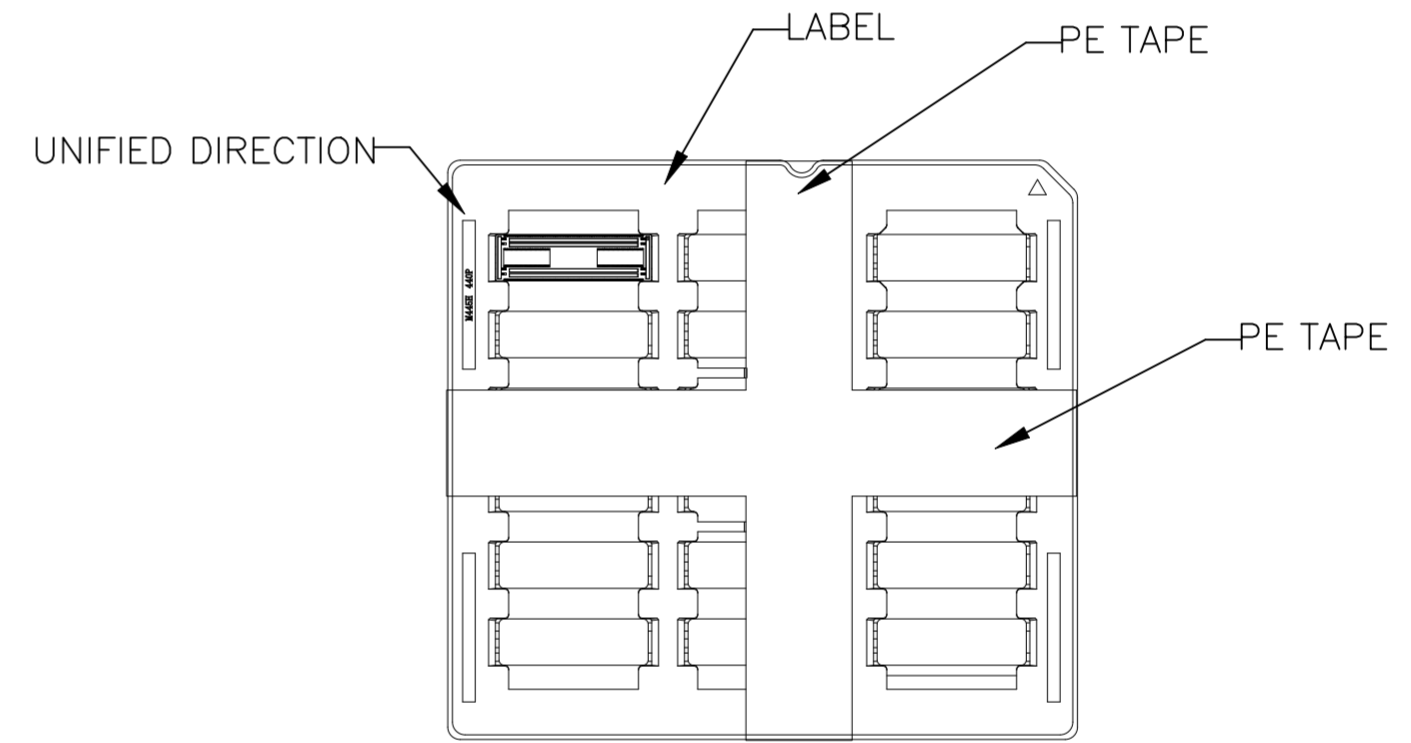

FIGURE 2
- THE ENTIRE TRAY IS FILLED WITH PRODUCTS, AND THE TRAY IS STACKED IN THE SAME DIRECTION. 20 TRAYS OF PRODUCTS PLUS 1 EMPTY TRAY FORM 1 BUNDLE, WITH LABELS ATTACHED TO THE EMPTY TRAYS. PE TAPE IS USED TO CROSS WRAP AT LEAST 2 TURNS (WIDTH 60MM) AS SHOWN IN FIGURE 2